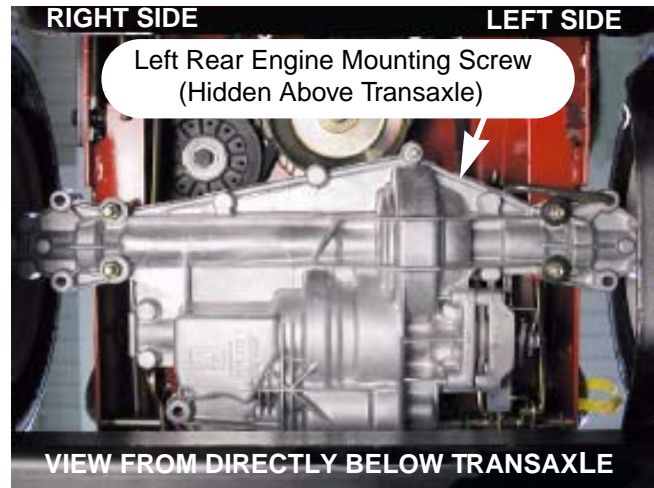

FIGURE 7
9. Using a 9/16 inch socket and extension, remove and discard the left rear engine mounting hex cap screw. See Figure 7.